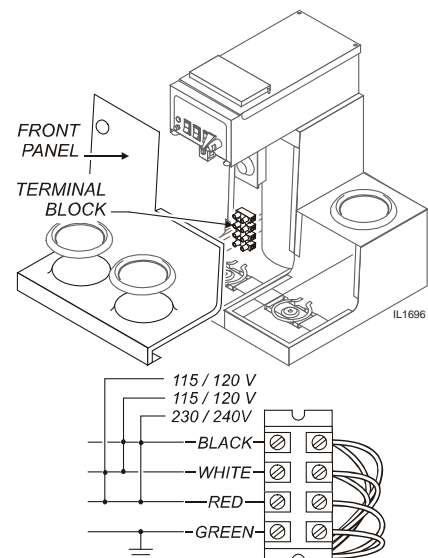

Fig. 3 115/240 Volt Terminal Block
**Model 8574** must be wired by an electrician, and requires a 115/230V 20A circuit (50/60 Hz, 2 hot legs / 1 neutral leg, plus ground). Remove front panel to gain access to terminal block. Green terminal must be connected to a suitable building ground. Circuit must be capable of 3800 Watts. See figure 3 at right.